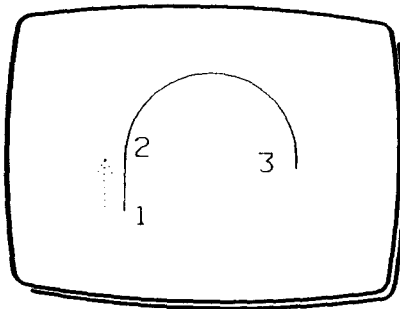

Fig 2
- 2 Draw a straight line from (1) to (2) in Fig 2, this defines the arc direction.
- 4 Move XY to position the dynamic cursor at (3) in Fig 2. This is the arc end-point.